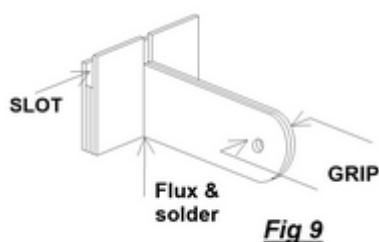

**Fig 7**
Remove the slide fulcrums (4) from the etched sheet (note that there is 1 spare for this critical component). Apply solder resist (indelible ink marker pen) to the half-etched areas (on the half-etched side) that will form the spring retainer slot (Fig 7).